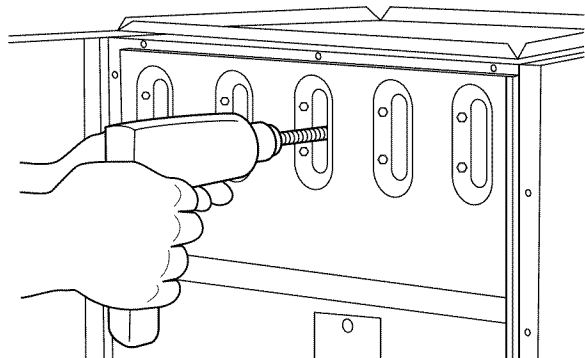

Fig. 48 – Cleaning Heat Exchanger Cell
- (1) Attach variable-speed, reversible drill to the end of spring cable (end opposite brush).
- (2) Insert brush end of cable into the outlet opening of cell and slowly rotate with drill. DO NOT force cable. Gradually insert cable into upper pass of cell. (See Fig. 48.)
- (3) Work cable in and out of cell 3 or 4 times to obtain sufficient cleaning. DO NOT pull cable with great force. Reverse drill and gradually work cable out.